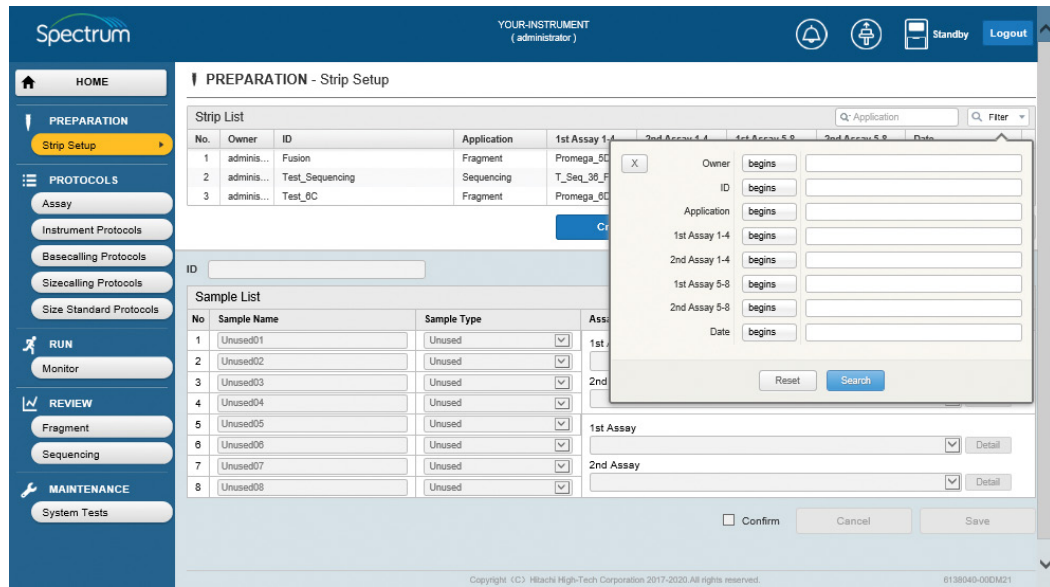

Figure 18. 'Strip List' search filter option selection.
3. After selecting the appropriate search field, select the magnifying glass or down arrow icon in the **Filter** box to display filtering options by the different fields (Figure 18).